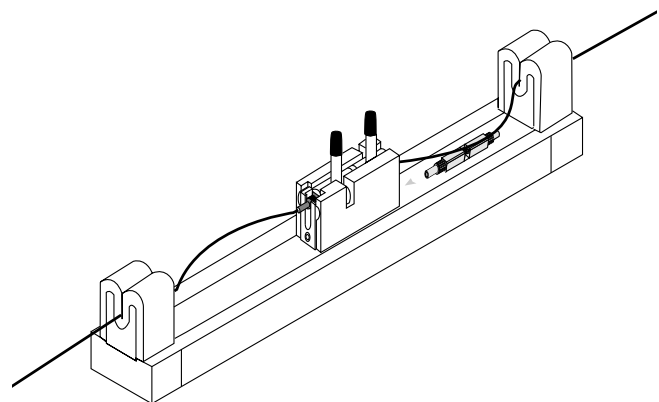

Figure 7
5.8 Push the first fiber against the second until there are equal bends in the fibers with approximately $\frac{3}{8}$ to $\frac{1}{2}$ inch (10-13 mm) deflection (Figure 7).